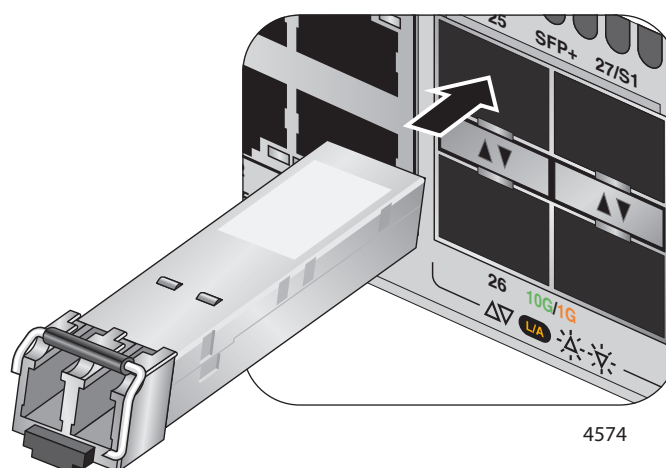

Figure 56. Installing an SFP Transceiver
3. If you are installing the transceiver in a top port, position the transceiver with the Allied Telesis label facing up. If you are installing the transceiver in a bottom port, position the transceiver with the label facing down. Refer to Figure 56.